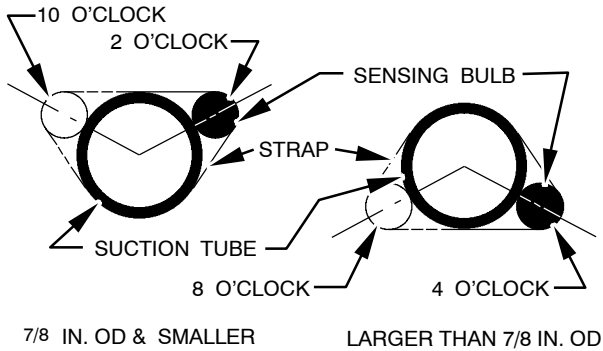

Fig. 2 - Position of Sensing Bulb
7. Attach and secure TXV sensing bulb to horizontal section of vapor/suction line using clamps provided (see Fig. 1C). Optimal positioning of sensing bulb can be noted in Fig. 2 Positioning of Sensing Bulb. Insulate bulb with provided insulation tape (see Fig. 1E).